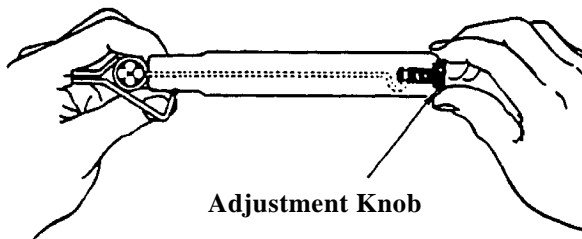

Figure 14. Coaxial Stripper Blade Adjustment
- a. Adjust the blades to the applicable stripping dimensions. Do not tighten the screws (see Figure 14).